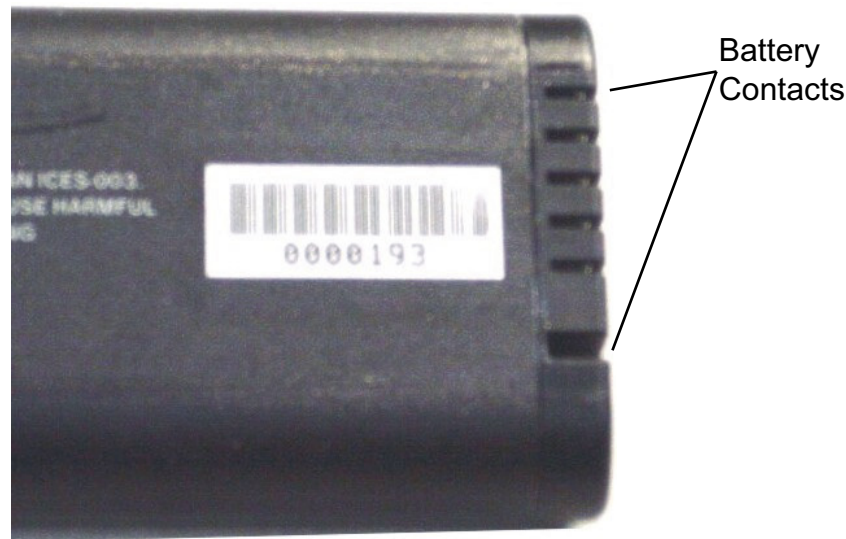

Figure 3-3. Battery Contacts
- Replacement is the opposite of removal. Note the orientation of the battery contacts (refer to Figure 3-3 on page 3-3), and be sure to insert the new battery with the contacts facing the bottom of the instrument.